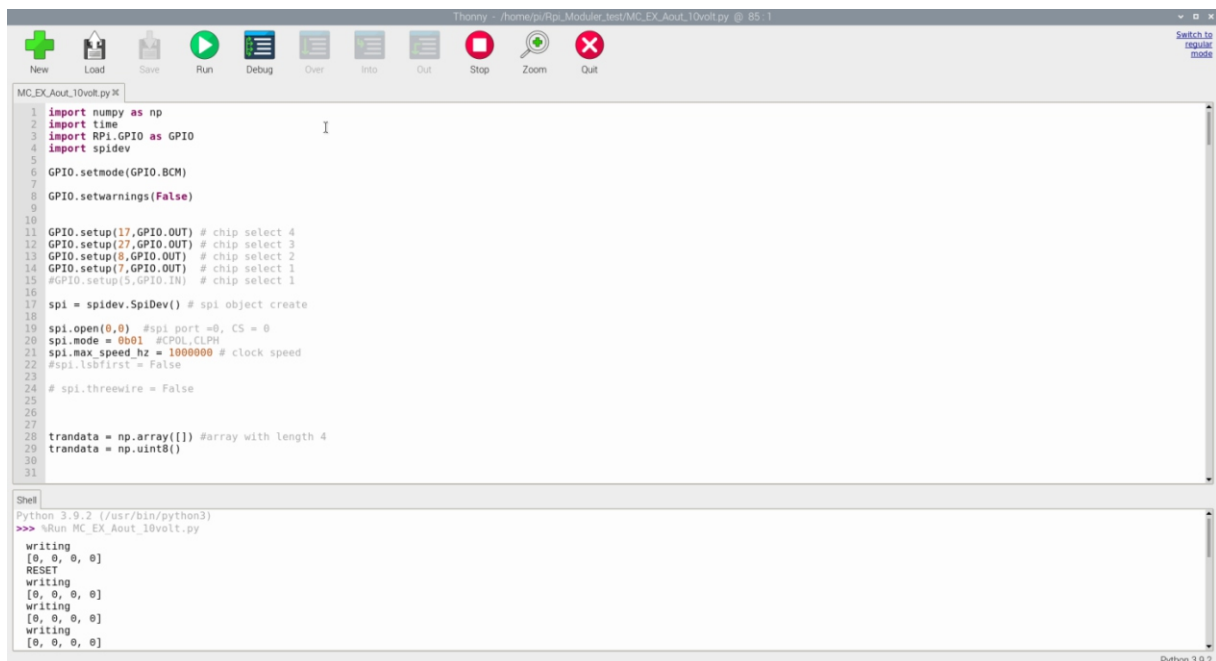

Figure 5: Analog Output example code run on Thonny Python IDE.
7. The python program will open on default Thonny Python IDE. Click RUN for start the program shown in Figure 5.